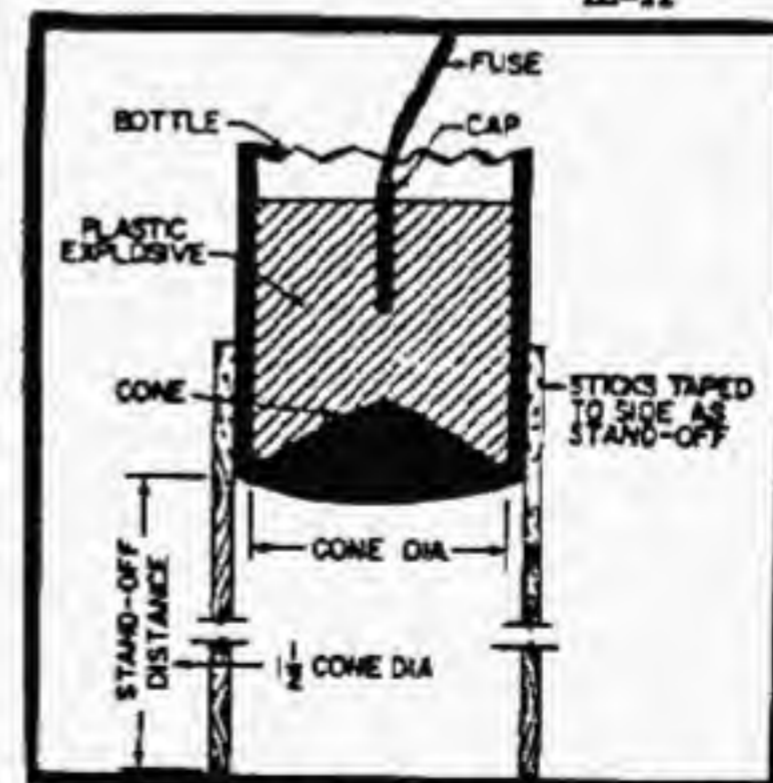

Figure 17 Shaped Charge
e. Shaped Charges. If available, manufactured shaped charges will always give results far superior to those produced by any improvised shaped charges. The angle of the cavity of an improvised shaped charge should be between 30 and 60 degrees. Stand-off should be from 1 to 2 times the diameter of the cone. Height of the explosive, measured from the base of the cone should be twice the height of the cone. Exact center priming and tightly packed C4 is important. Trial and error experimentation in determining optimum stand-off is necessary. A point worth mentioning in preparing hollow-bottomed bottles for shaped charge use is to hold the bottle upright when baring the string soaked with gasoline. As the flame goes out submerge the bottle, neck first, in water; and if properly done, the bottle will break cleanly where the string was burned. Hemispherical cavities will produce more surface damage on the target but less penetration. A true cone with an angle of approximately 45 degrees will produce more penetration, which ultimately is the desired results. (See Figure 17.)